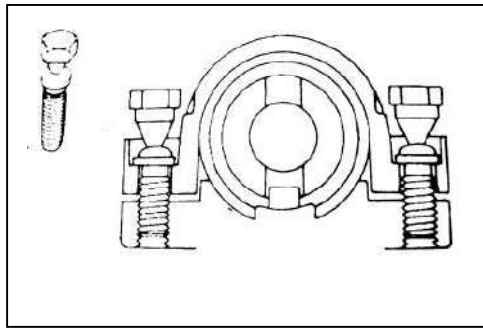

Fig 17-17
- (1) STEERING LOCK CYLINDER ASSEMBLY .STEERING LOCK BRACKET.SPECIAL BOLT INSTALLATION(See fig 17-17)